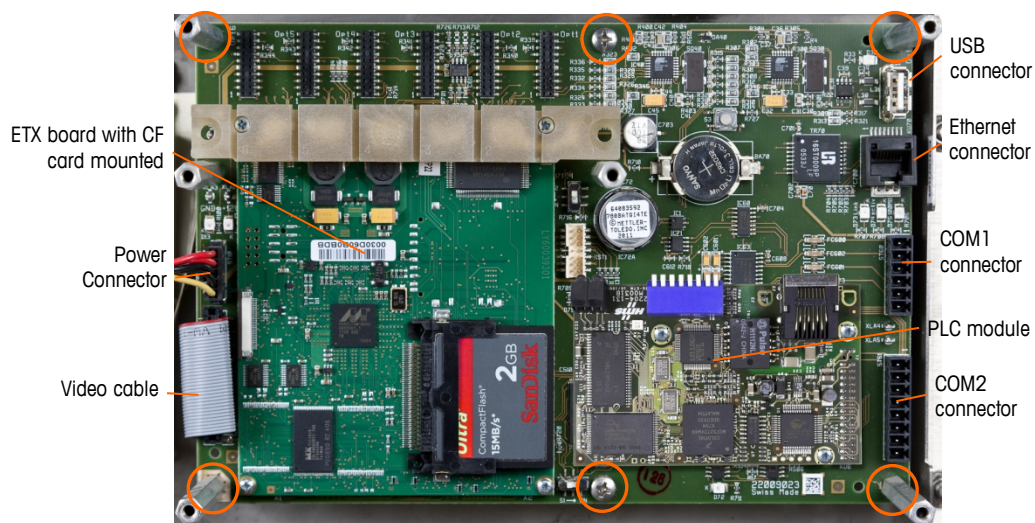
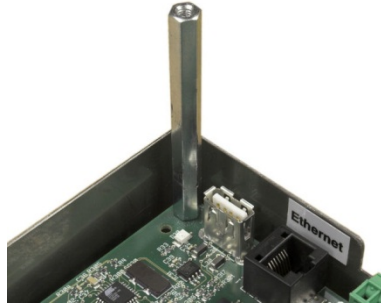
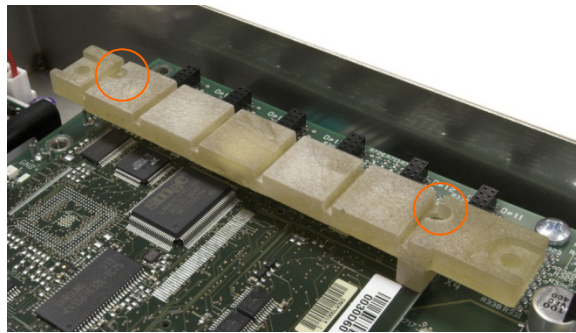
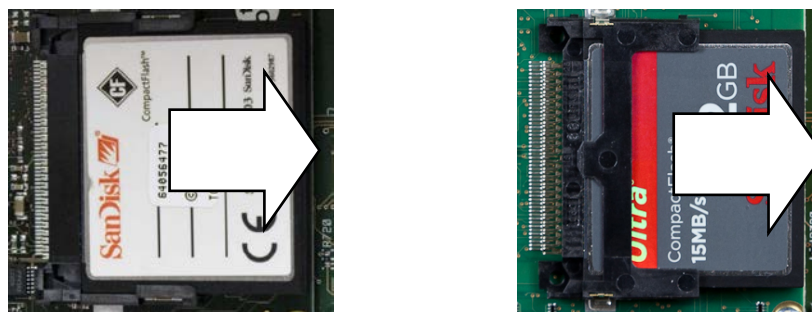

Figure 4-52: Main PCB Connections and Mounting Screws
Figure 4-53: Stand-Off on Main PCB
Figure 4-55: Lower Card Guide Screw Locations
Figure 4-61: CF Card Removal – Original (left) and New (right) ETX
11. Remove all peripheral connectors from their sockets – COM1, COM2, Ethernet, USB, power and video. Connector locations are indicated in Figure 4-52.
13. Unscrew and remove the six screws holding the main PCB to the enclosure. Their locations are circled in Figure 4-52. In the case of a panel mount terminal, the four outer fasteners will be hex post stand-offs, as shown in Figure 4-53.
- For a panel mount terminal, install screws in the center holes and in the four hex post stand-offs in the outer holes (see Figure 4-53).
1. Remove the two screws holding the lower card guide and the ETX board to the main PCB (Figure 4-52). The locations of these screws are indicated in Figure 4-55.
1. Note the orientation of the ETX board indicated in Figure 4-52. The ETX connectors are arranged so that it cannot be installed backwards.
5. Install screws to secure the board to the main PCB. Two of these screws also attach the lower card guide. This bar is asymmetrical, and must be mounted in the orientation indicated in Figure 4-55. Note that the longer end is oriented toward the main PCB battery.
To remove a CF card from the ETX board, hold the sides of the CF card and carefully slide it out of its socket, in the direction indicated in Figure 4-61. It may be necessary to move the card slightly side to side to disengage it. If any PLC interface module option is installed, it may need to be removed first.
Note that Figure 4-61 shows the CF card in the same orientation as in Figure 4-52.